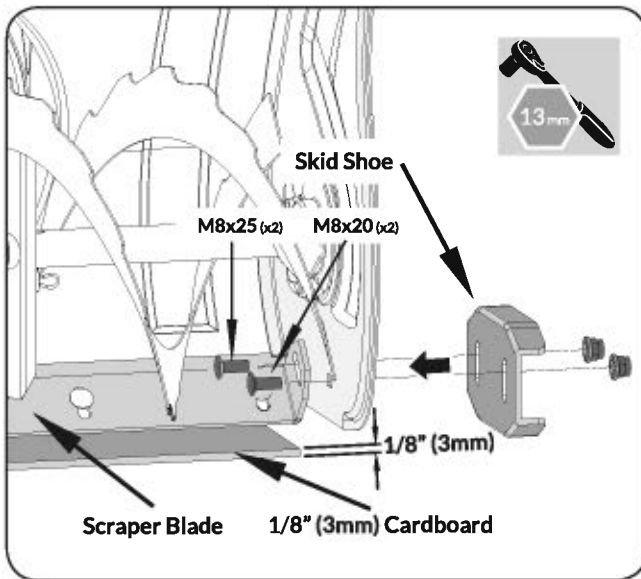

Figure 10
3. Attach the skid shoes to the sides of auger housing with the bolts and nuts. The shorter M8X20 bolts should be in the front holes while the longer M8X25 bolts in the rear holes. Move the skid shoes down as far as possible. Be sure both skid shoes are adjusted evenly. Tighten securely. (See **Figure 10**)